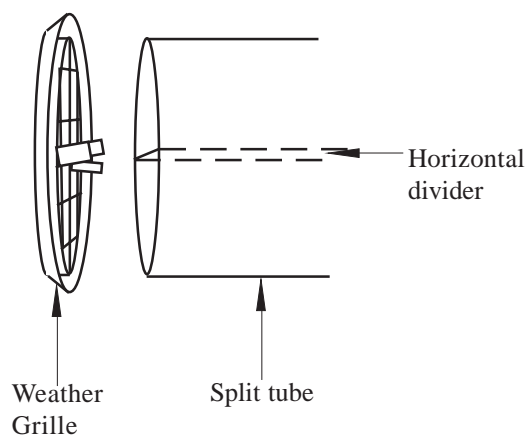

Fig. 5
- 4.5 Fit the Weather Grille to the split tube, such that the horizontal divider locates across the three lugs on the grille (refer to Fig. 5 below).